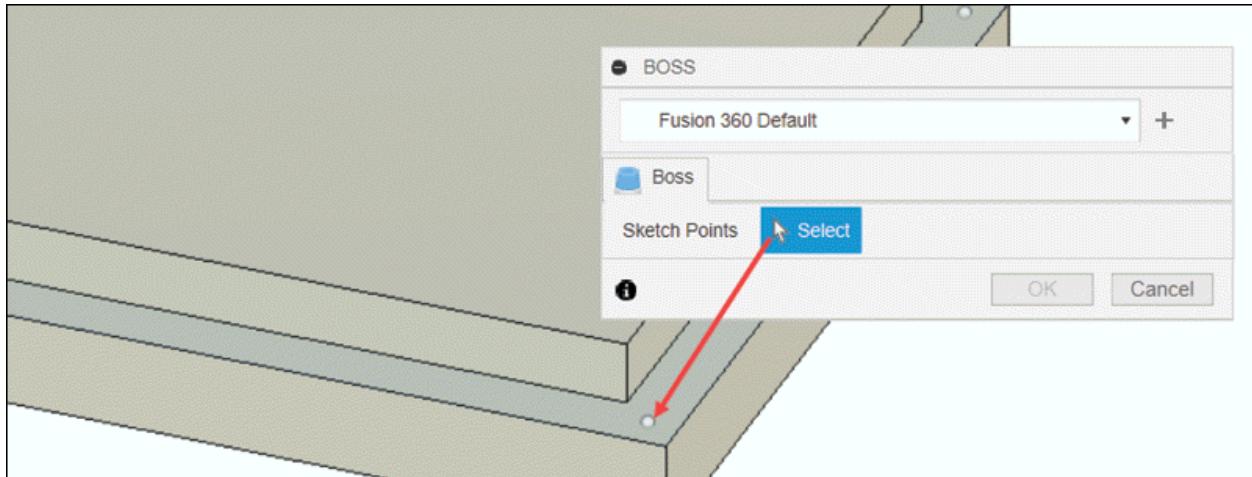
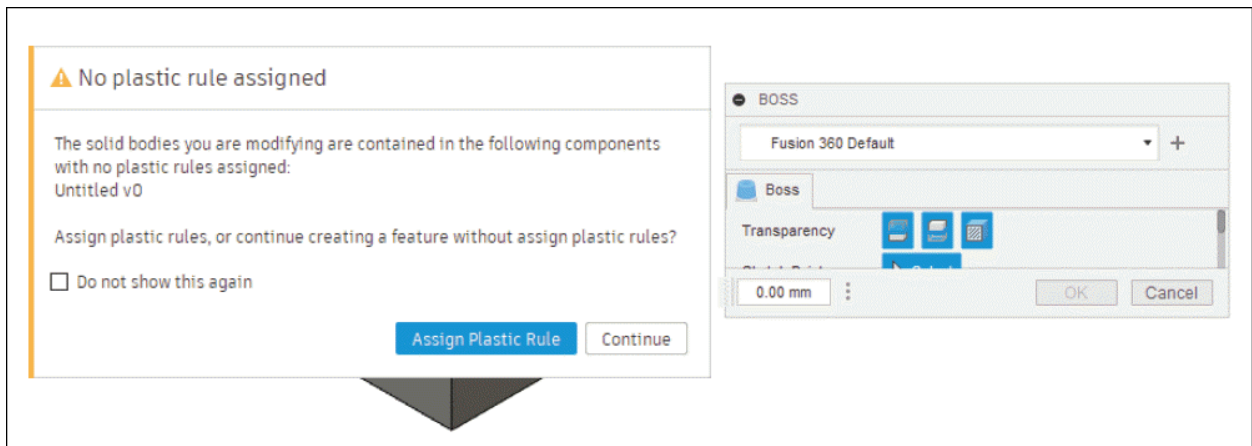

Figure-154. Selecting the sketch point
Figure-155. Updated BOSS dialog box
- The **Select** button of **Sketch Points** section is active by default. Select desired sketch point to place the boss; refer to Figure-154. The **No plastic rule assigned** pop-up window will be displayed along with the updated **BOSS** dialog box; refer to Figure-155.